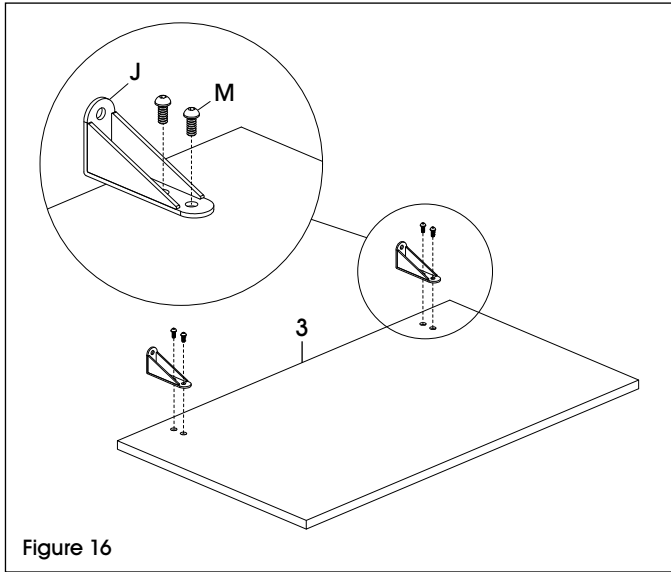

Figure 16
16. Place hanging modesty panel (3) on a smooth, non-marring surface. Install two modesty panel brackets (J) using four M6 x 14 mm bolts (M). (See Figure 16)